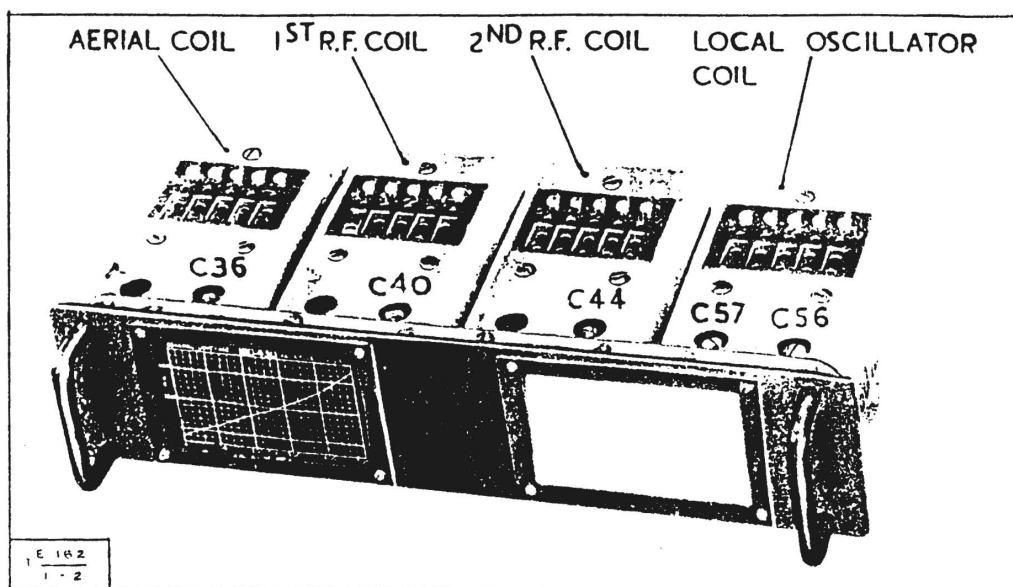

Fig 2 - Typical coil unit
13. The receiver is assembled on a steel chassis to which is attached a steel front panel. The coil units, (see Fig 2), comprise four separately screened cans which house the aerial, R.F., frequency-changer and oscillator coils together with their associated capacitors. All four sections are mounted on a panel, to which is attached a calibration chart, showing the relationship between dial reading and the frequency coverage of the unit. A table is also attached for the recording of station dial settings.